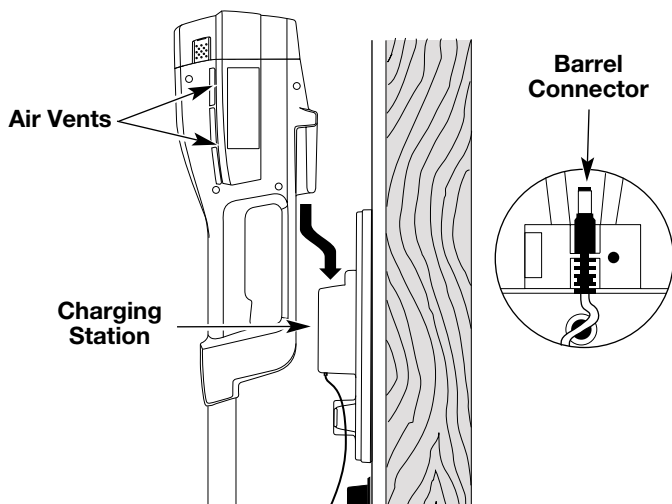

Fig. 4
1. Slide the unit down into the charging station until it is firmly seated (Fig. 4). The barrel connector in the charging station will insert into the unit. See **Replacing the Charger** if not, page 16.
NOTE: The battery will heat up while the unit is being charged. Be sure the air vents on the battery housing are kept cleared for proper ventilation (Fig. 4).